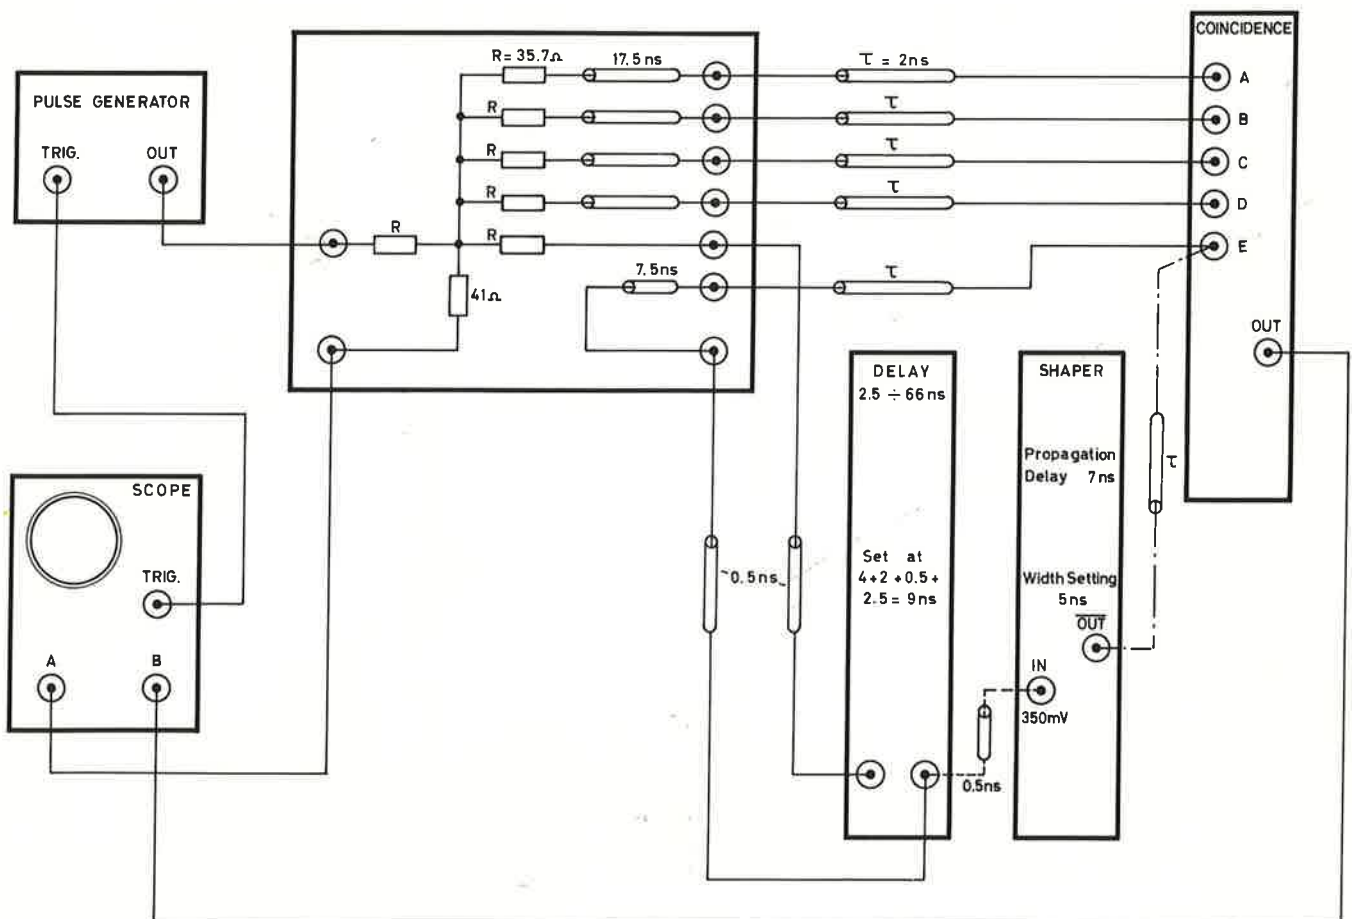

Figure 1
- 5) Coincidence Test Unit (Fig. 1)
- 1) Make arrangement as shown on fig. 1.